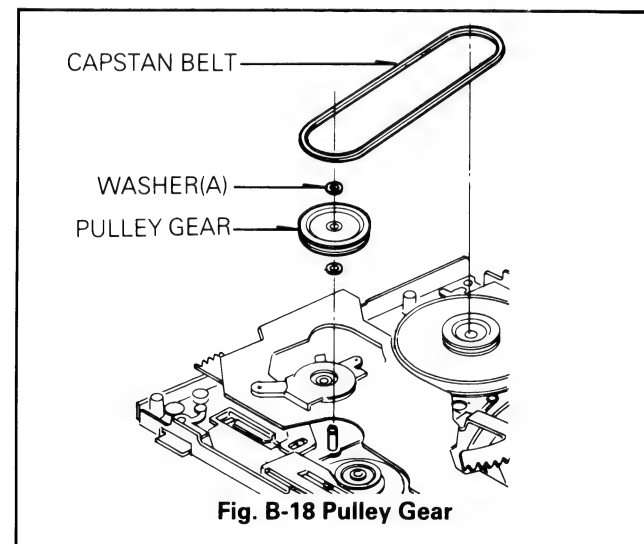

Fig. B-18 Pulley Gear
- 1) After removing the Supply Reel, and supply Main Brake Assembly, remove the washer(C) and remove the Idler Gear(A).
- 2) Remove the Washer(D) and remove the Idler Gear(B).
18. Pulley Gear Assembly(Fig. B-18)